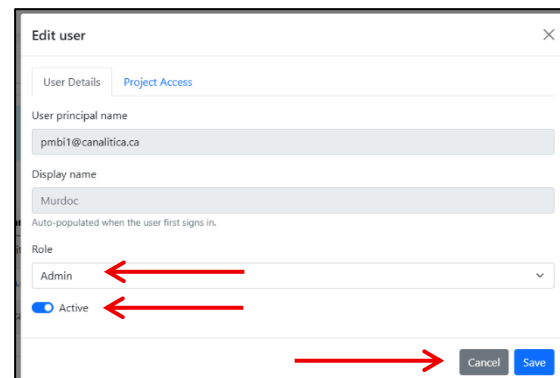

Figure 9: Updating a user's role and/or status
3. Update their role or status as desired (fig. 9). Click **Save** to continue or **Cancel** to quit. Note: User Principal Name and Display Name are not editable through the app.